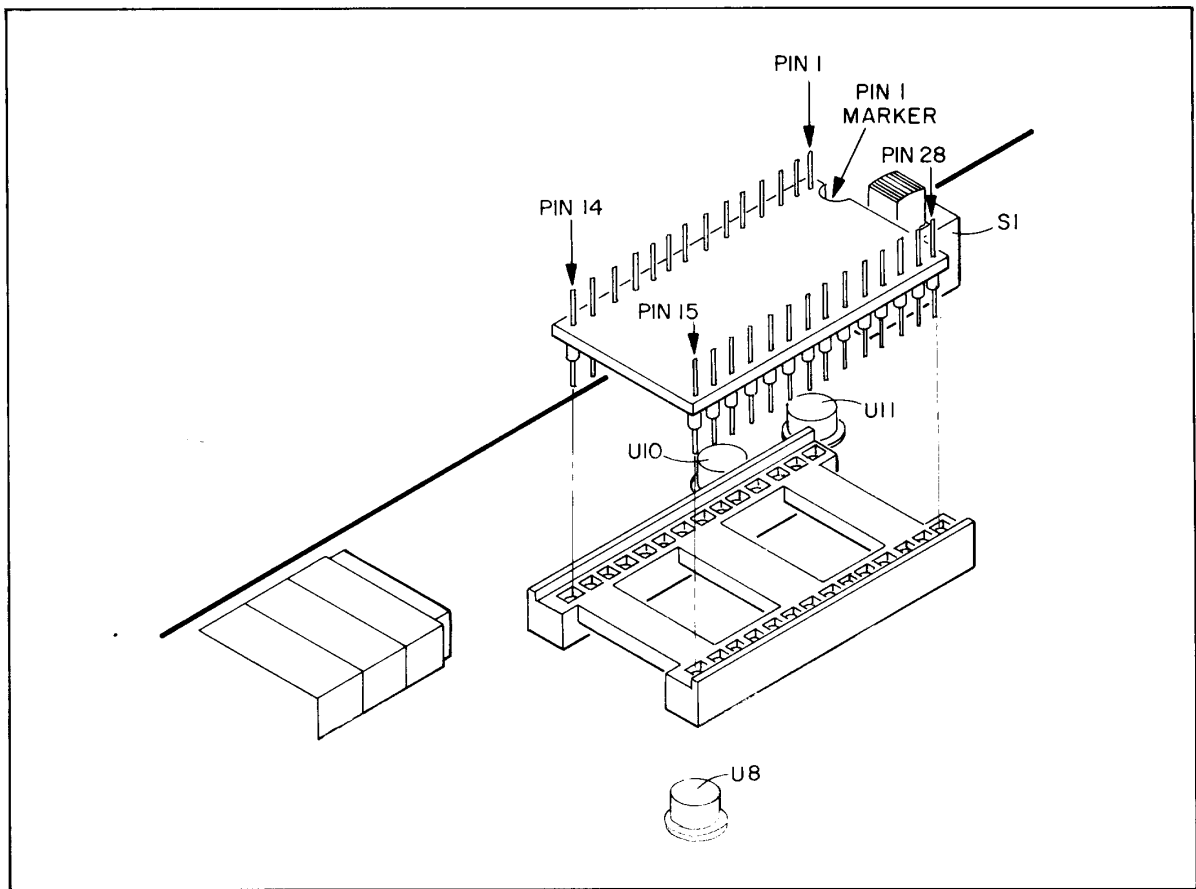

Figure 5-12. Orientation of Resistor Array Header
**Use square pad or numeral "1" on printed-circuit board as orientation for pin 1 of header. (See Figure 5-12.)**
- f. Install resistor-array header in socket A15XA1 of A15 board, carefully noting orientation of pin 1 (see Figure 5-12).